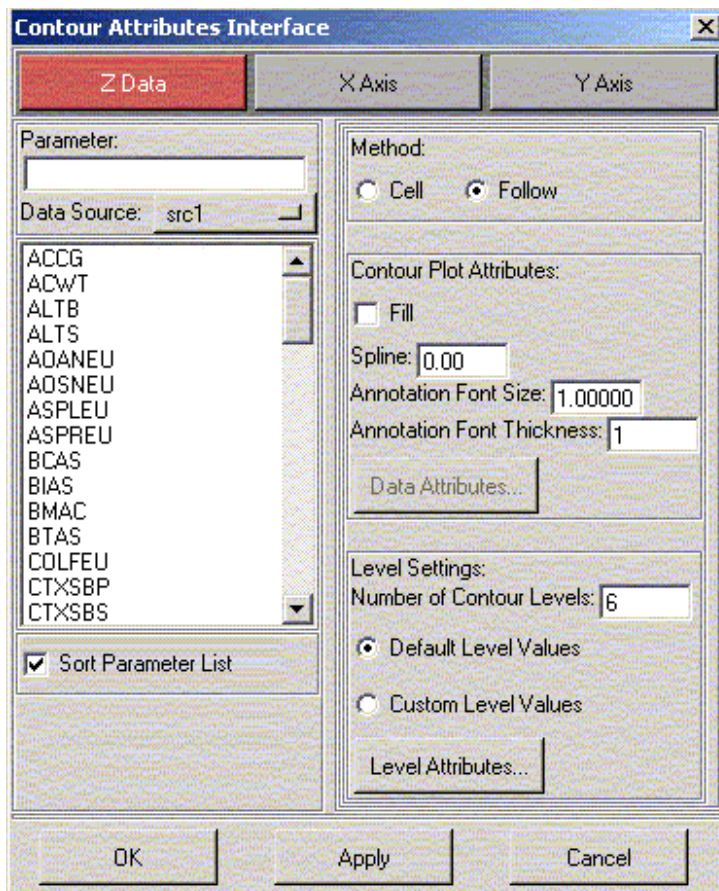

Figure 1-9 The Contour Attributes Interface dialog box (for more information, see Contour Attributes Interface Dialog Box on page 98).
- Step 4** Double click anywhere inside the contour object box to bring up the Contour Attributes Interface dialog box as in Figure 1-9. Use this dialog to specify the appearance of the contour object such as drawing method, plot attributes, level of custom settings and more. Let's plot a contour using the 'Follow' method. By default 'Follow' is selected for you.